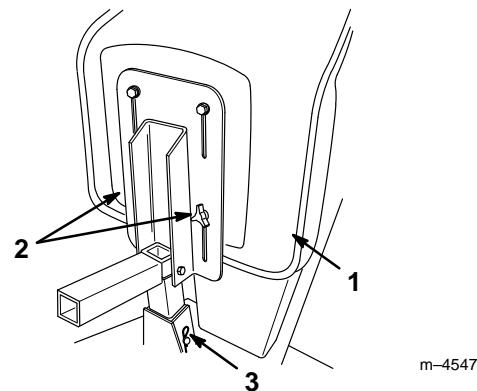

Figure 12
- Loosen the knobs on the bottom of the seat (Fig. 12) and slide the seat forward or back as needed.
- To adjust the seat height, remove the hairpin cotter and pin from the seat stand (Fig. 12) and raise or lower the seat as required.